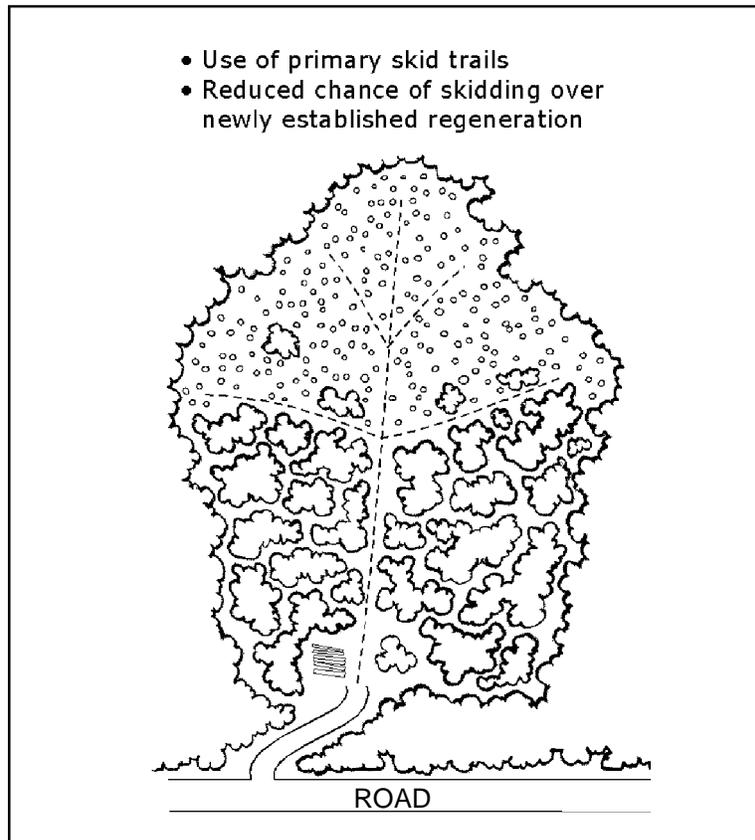

Figure TH-2
**U** Plan a progressive harvesting technique that avoids trafficking over pre-cut areas where possible. See Figure TH-2.